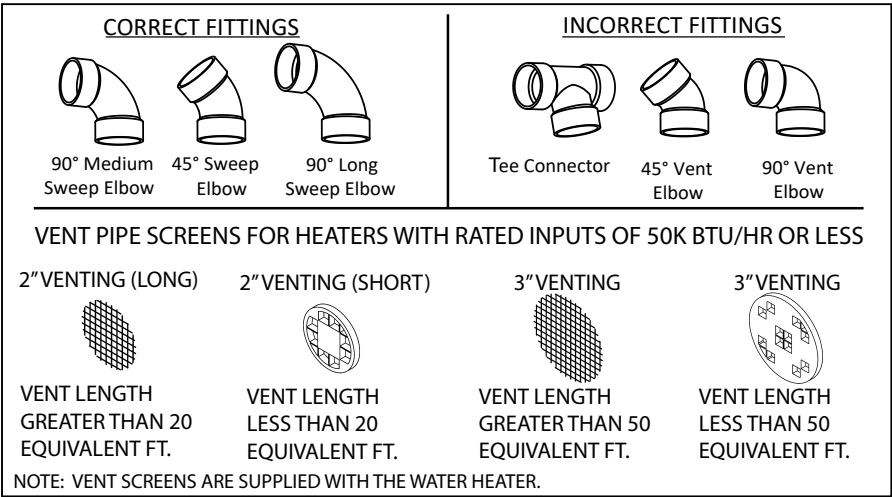

Figure 8 - Vent Termination Fittings
**DO NOT use vent elbows in this vent pipe installation.** See "Incorrect Fittings" in Figure 8.
2. Venting systems may use a maximum of five (5) 90° elbows.
3. Use proper screen termination (see Figure 8).